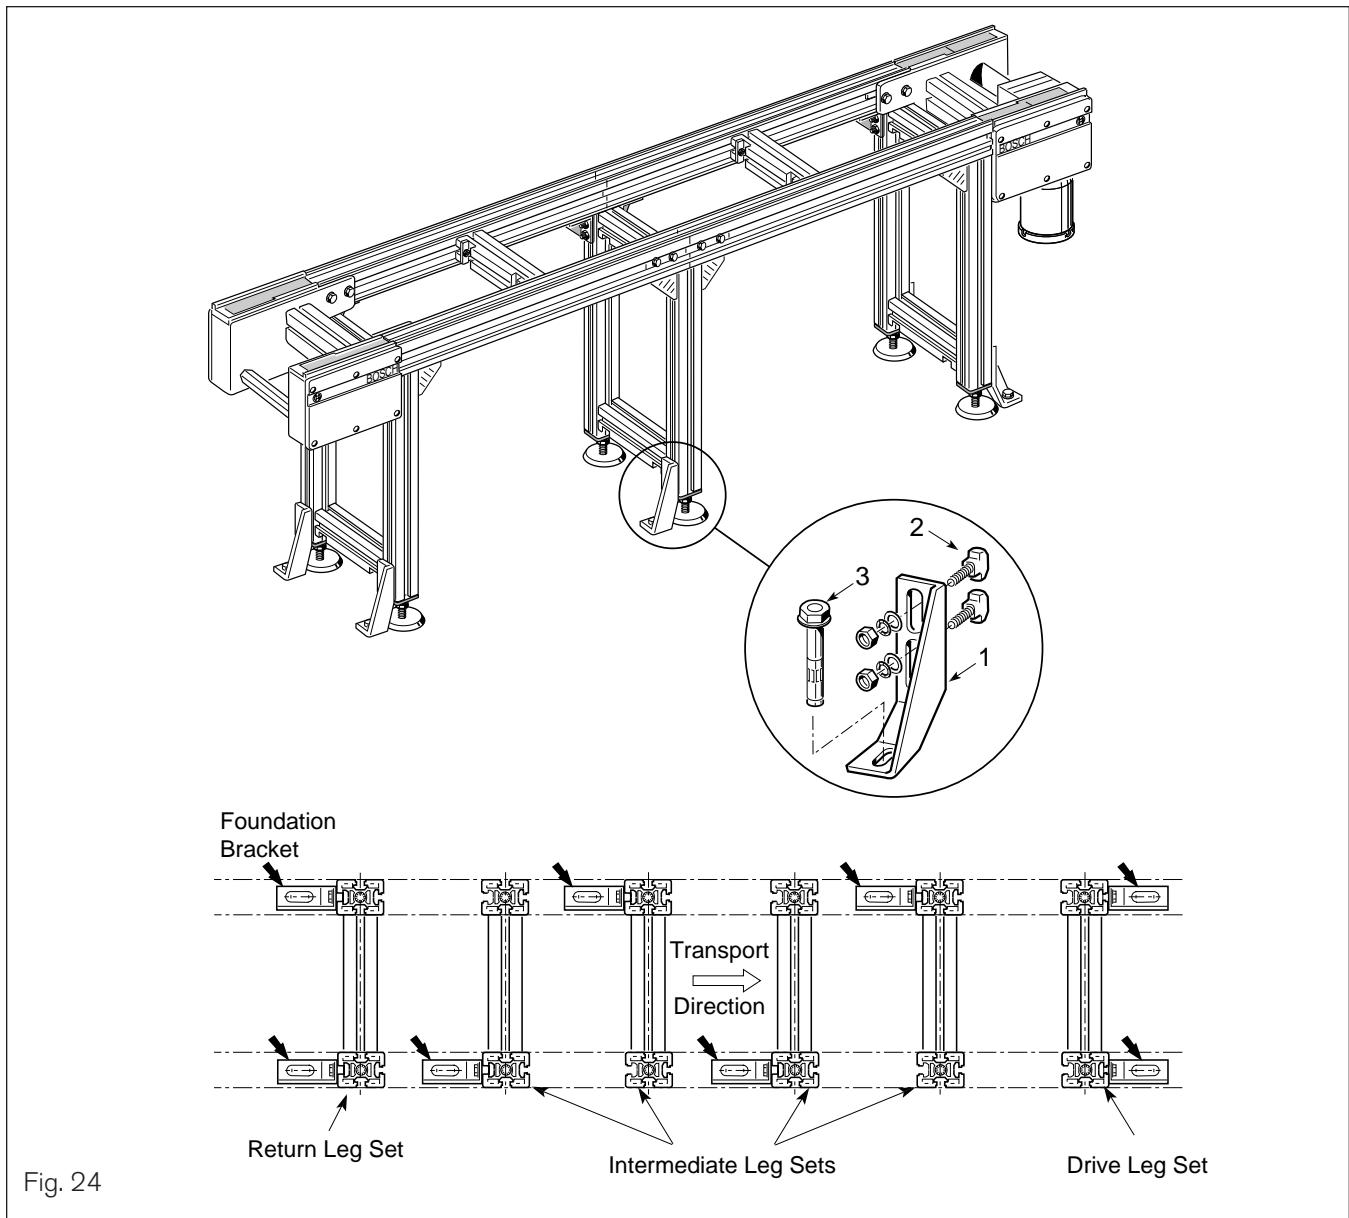

Fig. 24
Fasten the conveyor to the floor (Fig. 24)
- 1 Attach the foundation brackets to the leg sets according to the pattern shown in Fig. 24: On both sides of each drive and return leg set; then on alternate sides at each leg set along the length of the conveyor.
- 2 Mount the foundation brackets (1) to the leg sets with T-bolts (2). Bore a 5/16" dia. hole for each bracket into the floor. Finally, insert and tighten the floor anchors (3).